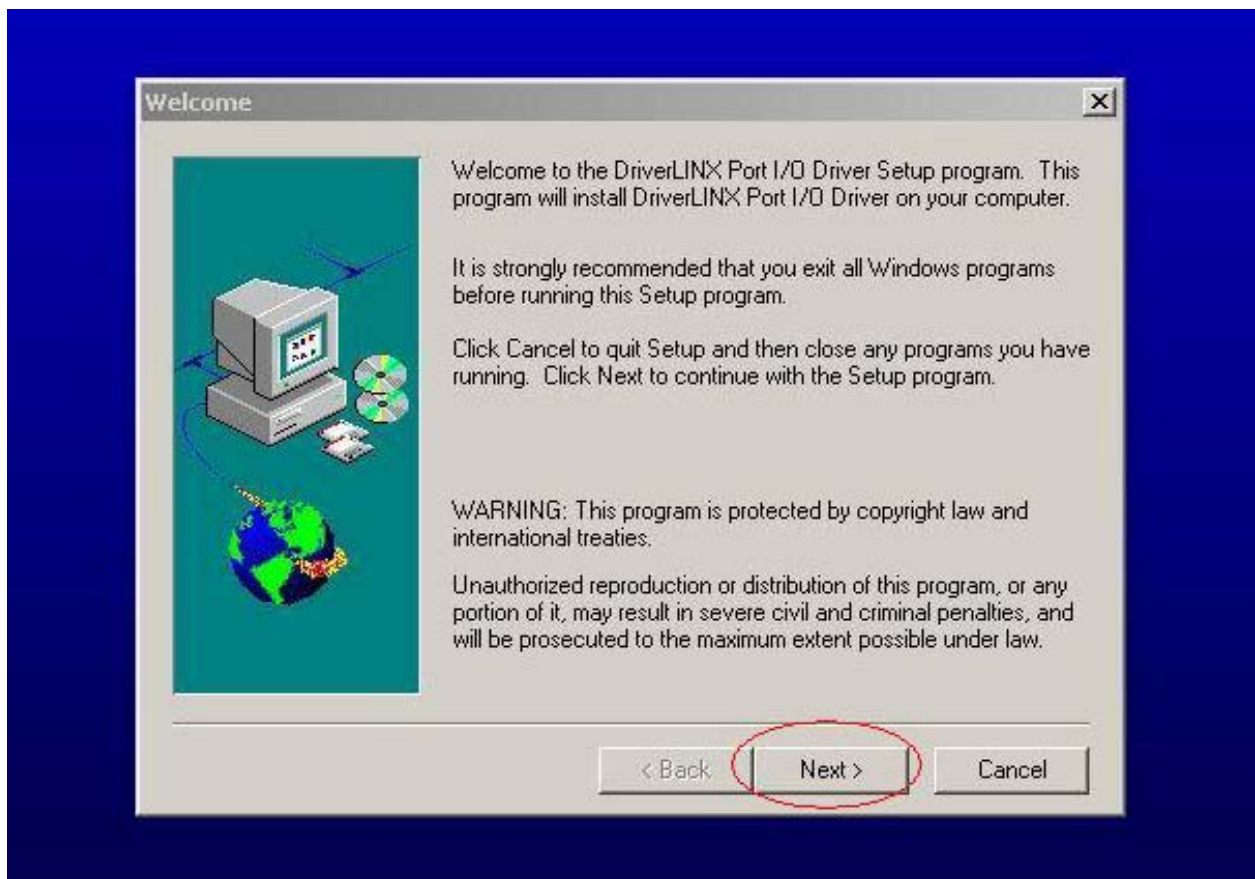

Fig. 0.2
3. Continue through the installation process by pressing "Next" four times; see Fig. 0.2.